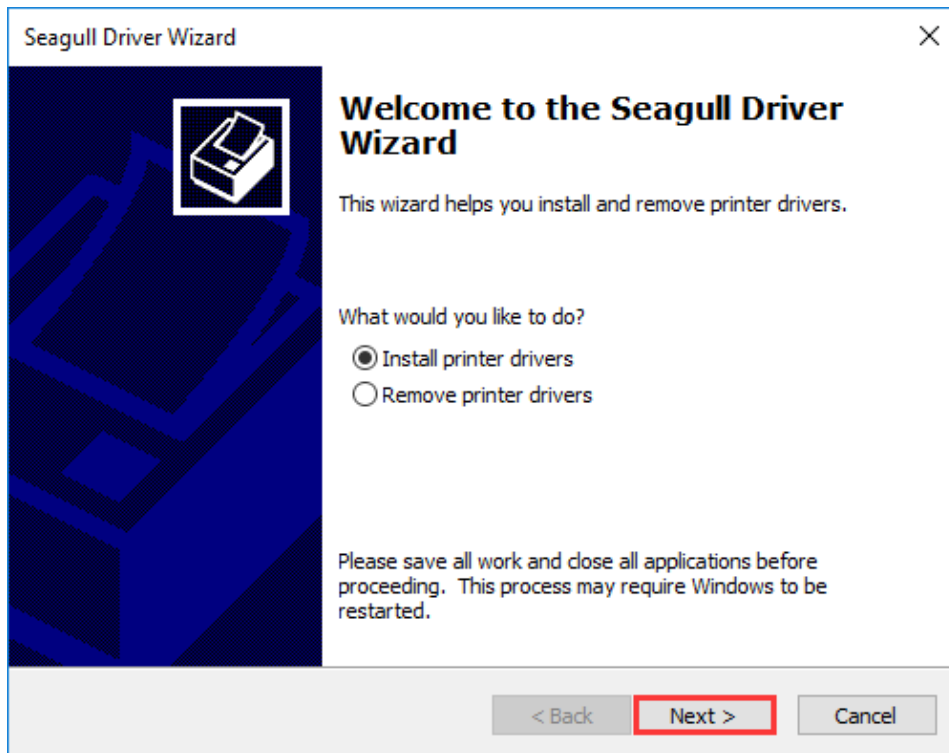

Figure 2-18 Seagull Driver Wizard Screen
6. On the “Seagull Driver Wizard” screen, select “Install printer drivers”, and then click “Next”, as shown in Figure 2-18.